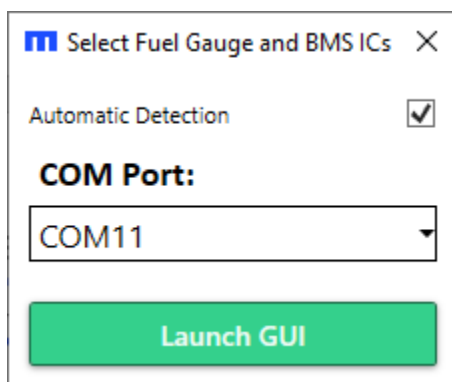
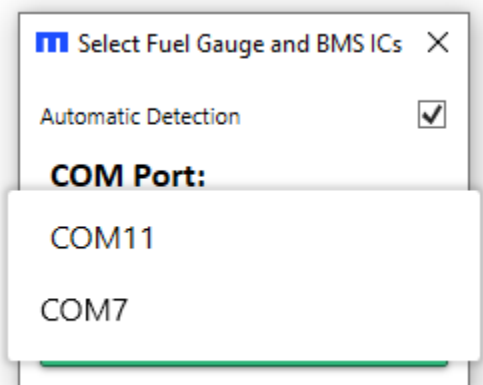

Figure 25: Fuel Gauge and BMS ICs Selection Window 6
Figure 26: Fuel Gauge and BMS ICs Selection Window 7
- c. Allow the GUI to automatically detect which device is connected. Then select the COM port connected to the evaluation board on the drop-down menu (see Figure 25 and Figure 26 on page 23).